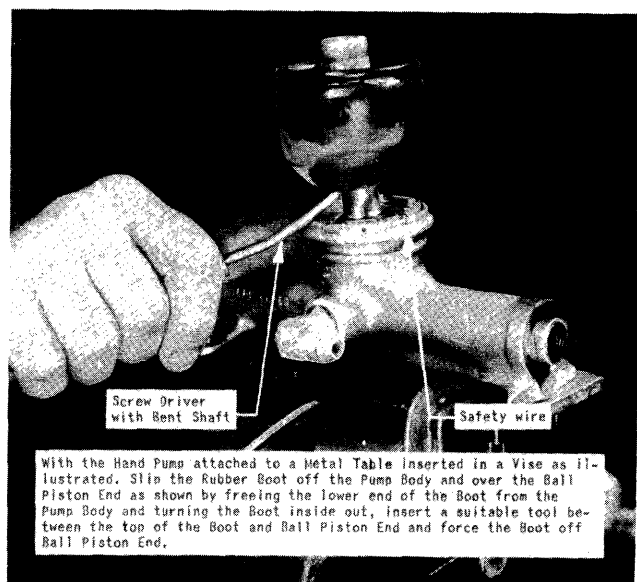
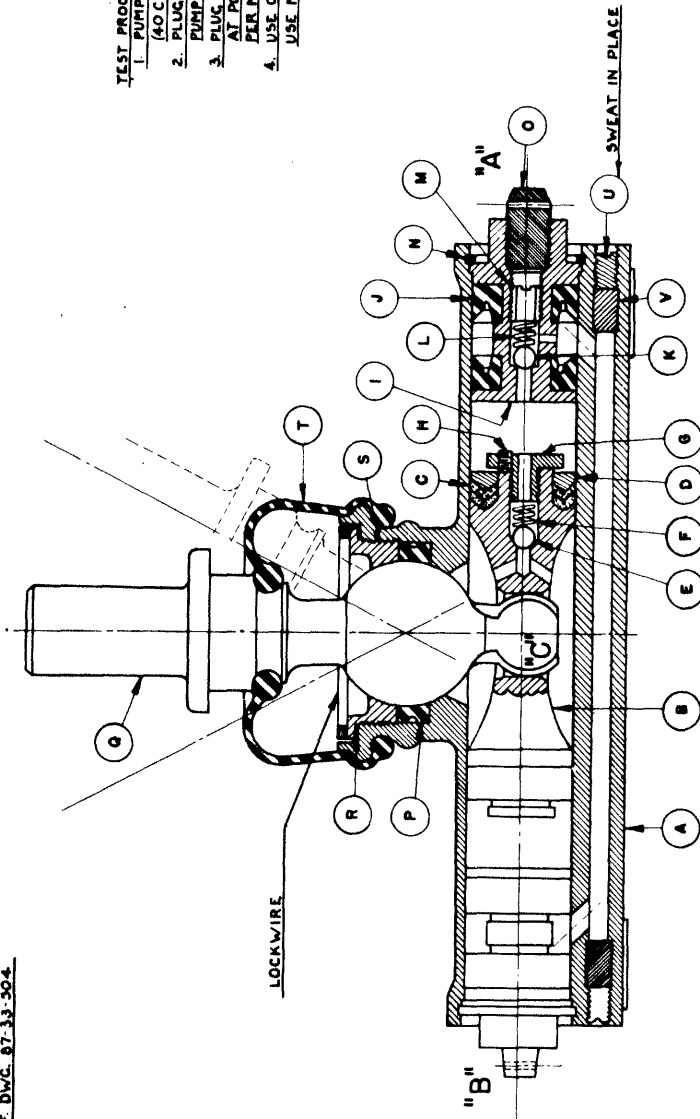

Figure 121 - Removing Rubber Boot from Hydraulic Hand Pump
Figure 126 - Hydraulic Hand Pump
the outside dimensions of the pump body. Place the pump on the metal and drill four holes to correspond in size and location to the holes in the pump body that house the tie-down bolts. Lay the table top piece of metal on a bench and take a heavier piece of metal the same length or a little less than the table top and weld it to the table top along the center line in a vertical position. The table top and the base will take the form of a letter "T." Insert the base of the table assembly in a vise, set the pump on the table and line up the holes. Insert two bolts, one on either end of the pump and diagonally opposite, through the pump and table. Then safety the remaining two bolt lugs, on the pump to the table with two clamps. (See figure 121.)
(3) If the pump to be serviced is the emergency pump remove the shut-off valve on the end and then remove the rubber boot by forcing the lower part of the boot up over the flange on the pump body. Turn the boot inside out and force the upper end of the boot off the flange on the ball-piston end. A suitable tool for these operations can be easily made by bending the shaft of a light screw driver in an arc so that it can be easily hooked under the boot. (See figure 121.)
(c) When the Allen setscrew has been turned out a couple turns pull the piston from the Allen wrench and unscrew the retainer with a screw driver. This will free the packing ring and packings as well as the spring and hardened steel ball. (See figure 126.)
(2) Attach the pump body to the special table inserted in a vise as illustrated in figure 121 and install the piston in the cylinder.
(3) Replace the ball-piston end packing ring.
(4) Insert the ball-piston end in its place and be sure that it engages the rectangular slot in the piston.
(5) Drop the shim on to the nut flange and screw the nut in by hand to retain the ball-piston end in place.
(11) To reassemble the valves, wet the cups with hydraulic oil and install them in either end of the cylinder. Install the snap rings to retain the valves in position.
(12) Turn the cylinder to a horizontal position in the vise and tighten the nut with the spanner wrench. Safety wire the nut. (See figure 121.)
(13) Turn the boot inside out and slide the top of the boot over the ball-piston end first. Stretch the boot end over the retaining flange on the ball-piston end and turn the boot down into its correct position. Stretch the bottom of the boot over the retaining flange on the pump cylinder and the pump is assembled ready for testing.
(14) Before the hand pump is installed in the airplane it must be tested in accordance with the test procedure outlined in figure 126.